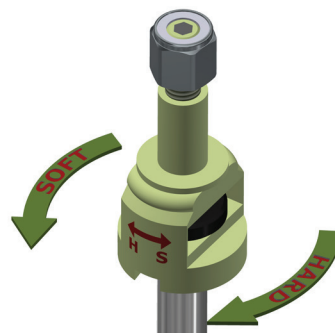

fig. F.2
1. The dampers in this kit have 30 settings, or “clicks,” of adjustable compression and rebound damping characteristics. Damping is changed through the damper rod using the adjuster (Fig. F.2).
2. Turn the adjuster clockwise (H) and the damping settings are hardened, reducing oscillations and body motion. Turn the adjuster counterclockwise (S) and the damping is softened.